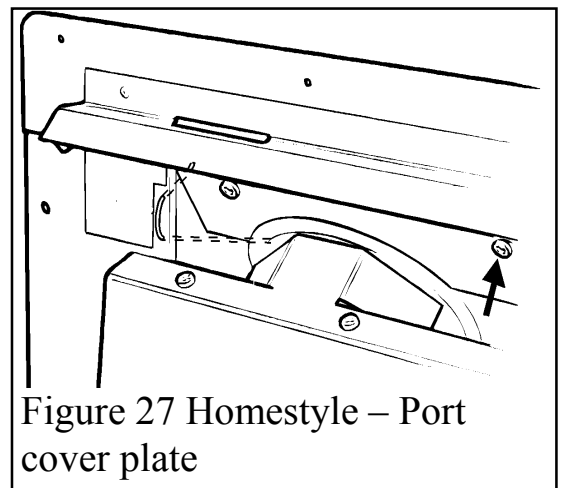

Figure 27 Homestyle - Port cover plate
3. Fit the port cover plate to the convection box by removing the screw shown in figure 27, placing the cover plate over the top of the outlet ports and securing with the screw previously removed. It is not essential to run the screw fully home. It can be allowed to protrude to prevent the cover plate from bending. See figure 27.